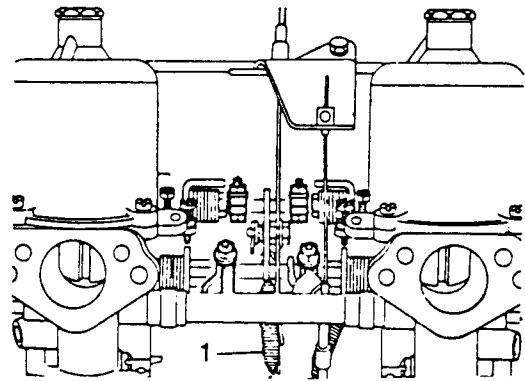

Fig B4.24
- (13) Refer to Fig B4.24. Replace the accelerator return spring (1).